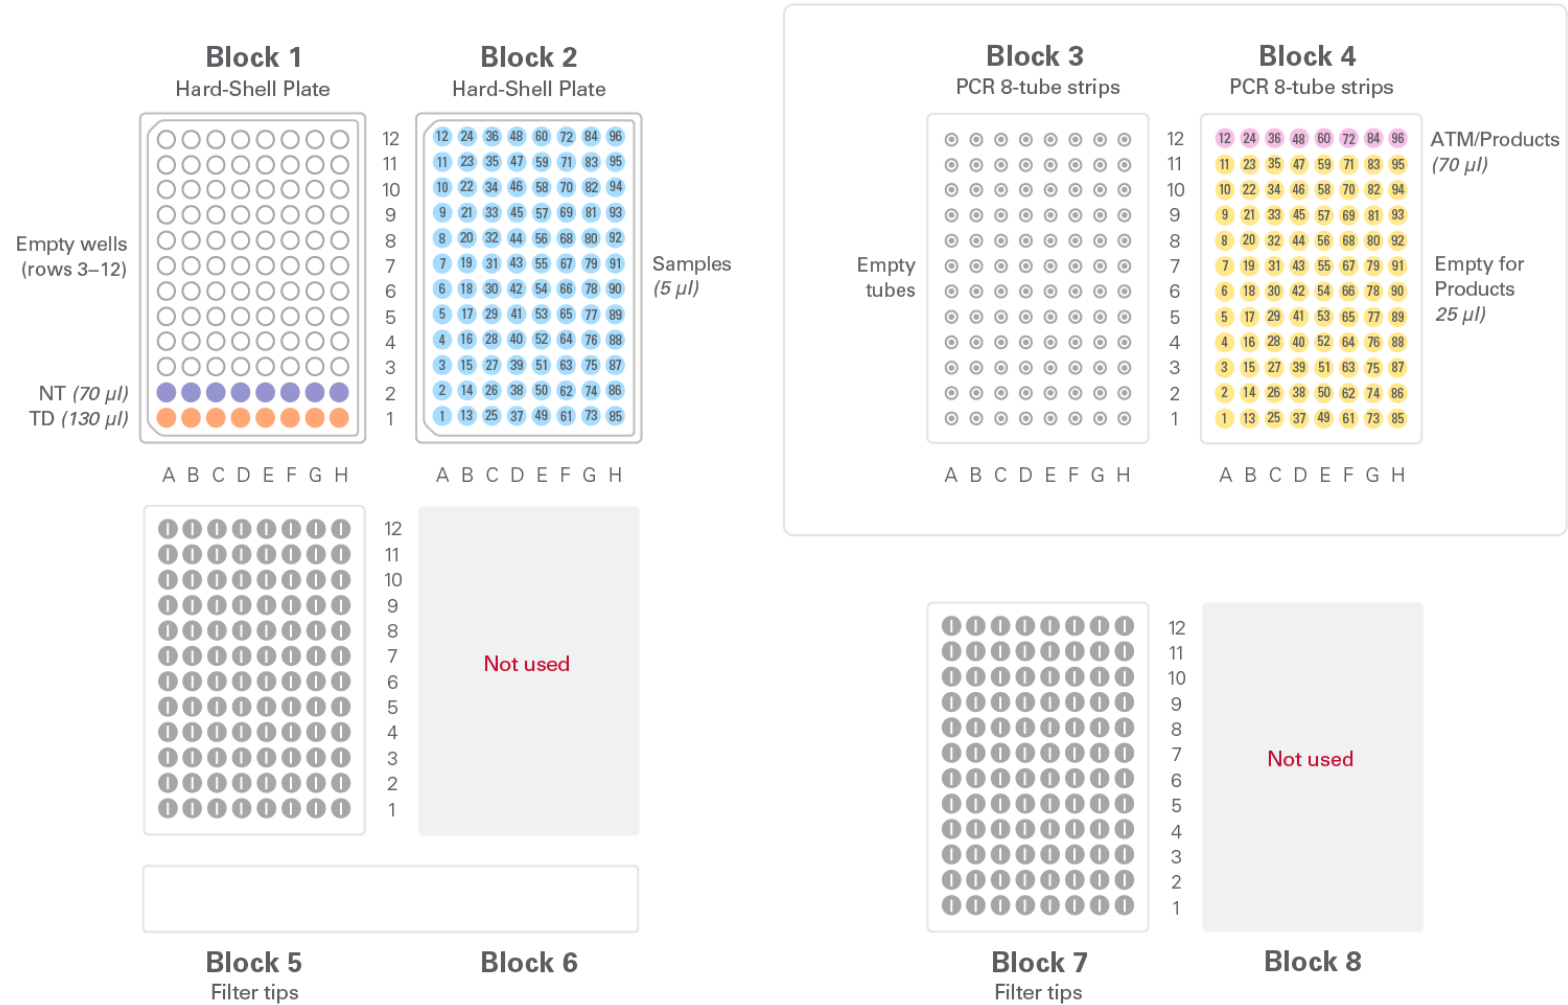

Figure 2. Loading layout for tagmentation.
4. Load consumables onto the work surface and aliquot reagents, following the layout in Figure 2 (next page):